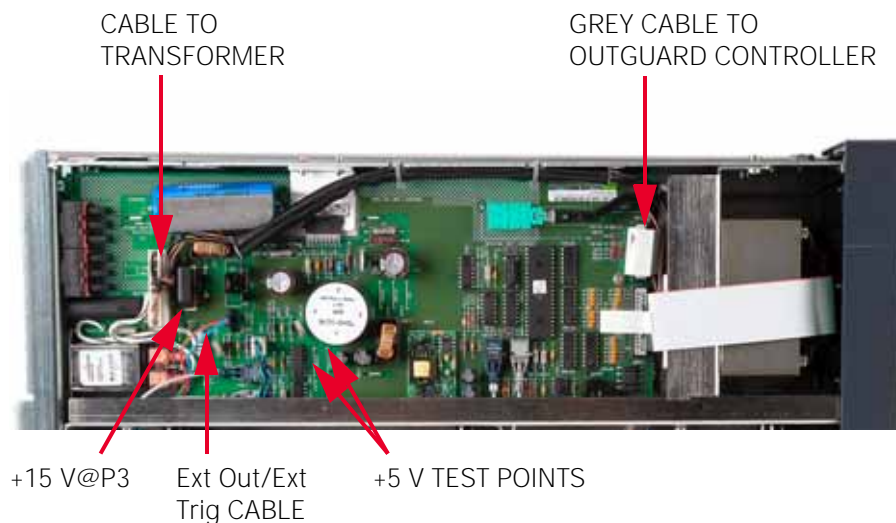

Figure 4-2 Outguard power supply
- 2 Refer to Figure 4-2 to locate the Ext Out/Ext Trig cable plugged in on the Outguard Power Supply (A6) assembly. Unplug the cable from socket P301.
- 2 Refer to Figure 4-2. Unplug the 2-pin cable from socket P3. The cable is connected to the fan.
- 3 Turn the instrument on. Use a digital multimeter to measure for approximately +15 V at socket P3, as shown in Figure 4-2.
- b Refer to Figure 4-2 to locate the 8-pin cable that connects the Outguard Power Supply (A6) assembly to the power transformer. Unplug the cable at the power supply assembly.
- 2 Refer to Figure 4-2. With the test digital multimeter, check for +5 V (± 0.25 V) at the test points shown in the figure.
- 6 Refer to Figure 4-2. Unplug the gray 20 pin cable connected to the Outguard Controller (A5) assembly.